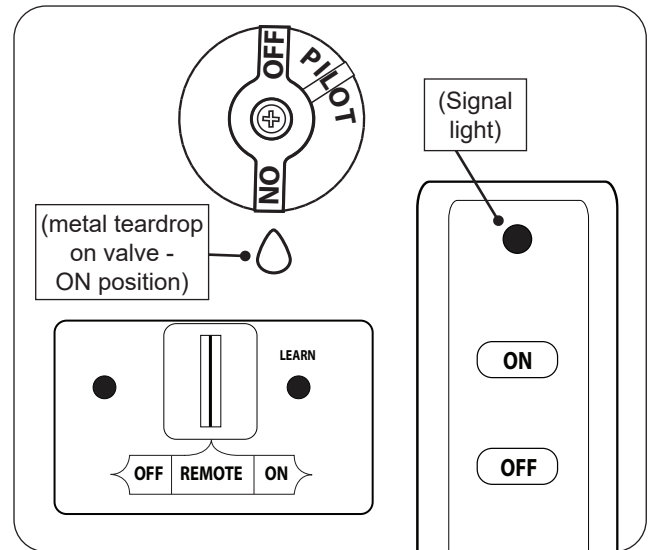

Fig. 25-1 Remote lighting
1. Ensure the pilot is burning. Turn the control knob counterclockwise ↺ to **ON** (see Fig. 25-1).
2. Locate the 3-position switch on the remote receiver, and slide the switch to **REMOTE** (see Fig. 25-1).
3. Locate the remote transmitter and press the **ON** button (see Fig. 25-1). The ignition sequence will begin.